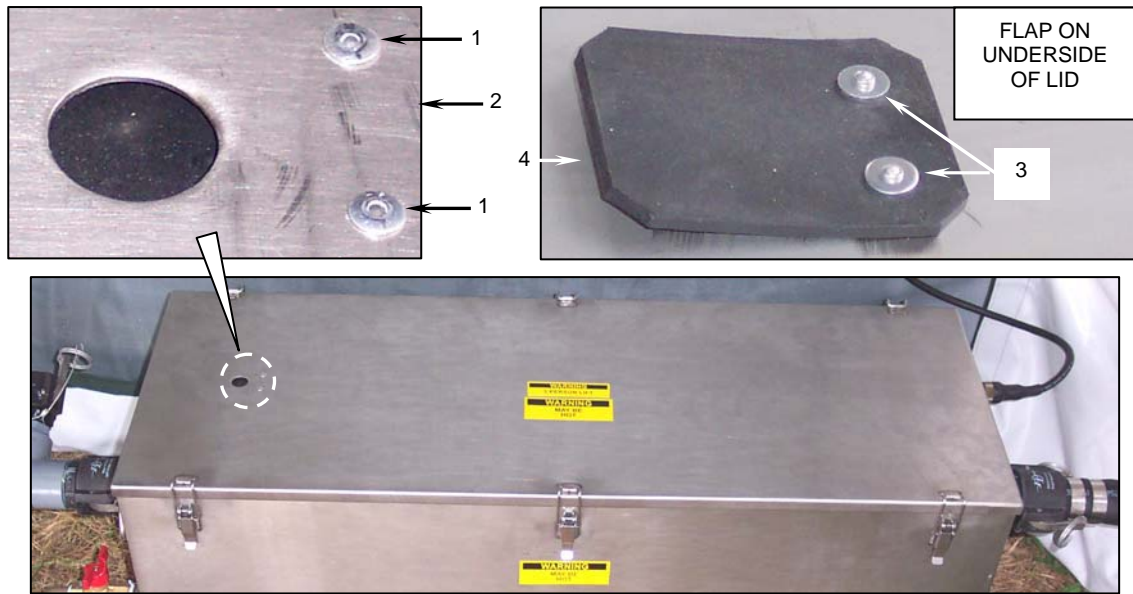

Figure 1. Replacing the Grease Separator Lid Air Flap.
1. Drill the two existing rivets (**Figure 1, Item 1**) out of the grease separator lid (**Figure 1, Item 2**).
2. Remove and discard the existing washers (**Figure 1, Item 3**) and the lid air flap (**Figure 1, Item 4**).
3. Position the new lid air flap (**Figure 1, Item 4**) and washers (**Figure 1, Item 3**) on the underside of the lid (**Figure 1, Item 2**).
4. Insert the two new rivets (**Figure 1, Item 1**) through the top of the lid (**Figure 1, Item 2**), the new lid air flap (**Figure 1, Item 4**), and the two new washers (**Figure 1, Item 3**).